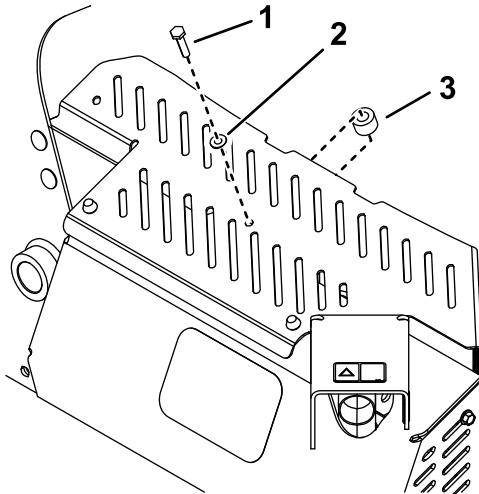

Figure 8
- Use the thread-forming bolt (1/4 x 1-1/4 inch) and washer to install the spacer between the heat shield and muffler guard (Figure 8).